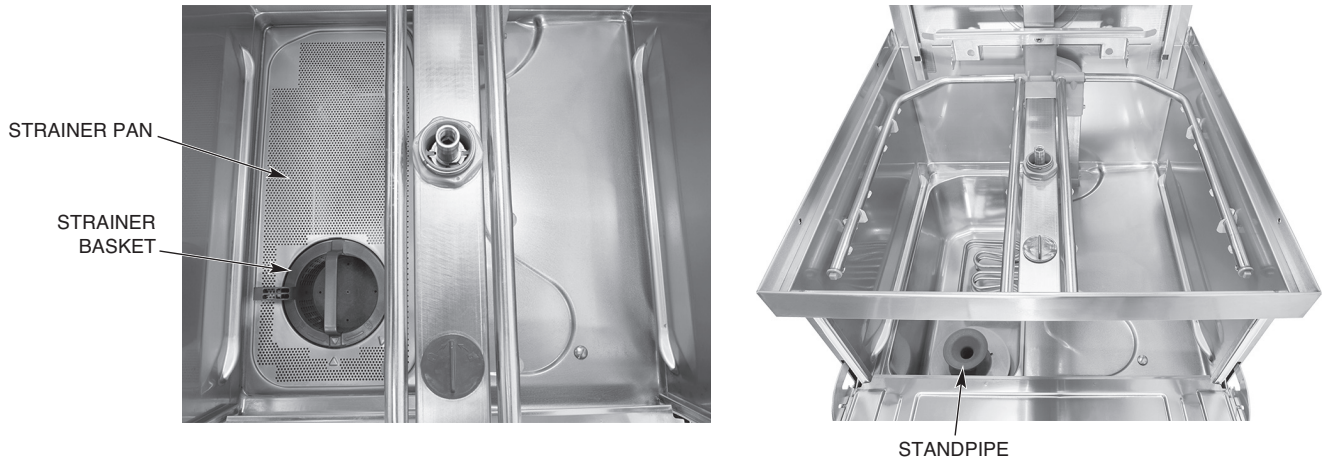

Fig. 19
6. Remove the strainer basket, strainer pan and standpipe (Fig. 19). Wash and rinse thoroughly in a sink with a mild cleanser.